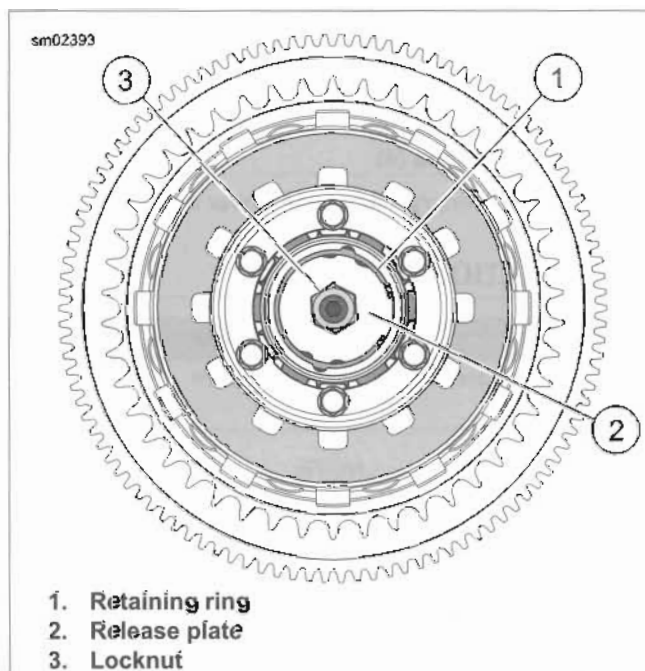

Figure 5-6. Clutch
5. See Figure 5-6. Loosen locknut (3).